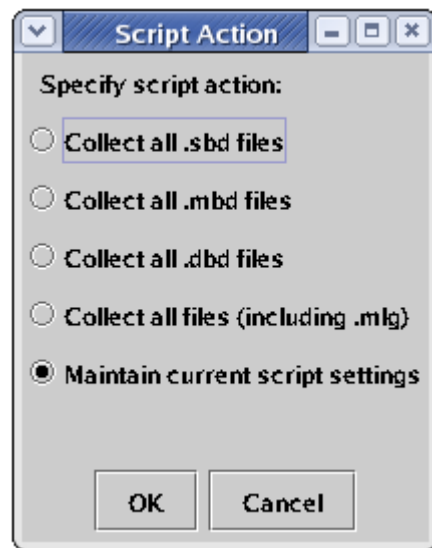

Figure 8-15. Script Action Dialog.
1. Select Missions/Specify script action. A script action dialog will then appear (similar to that shown in Figure 8-15), with radio-buttons for each of the available scripts, plus a radio-button option to maintain whatever script is currently running.